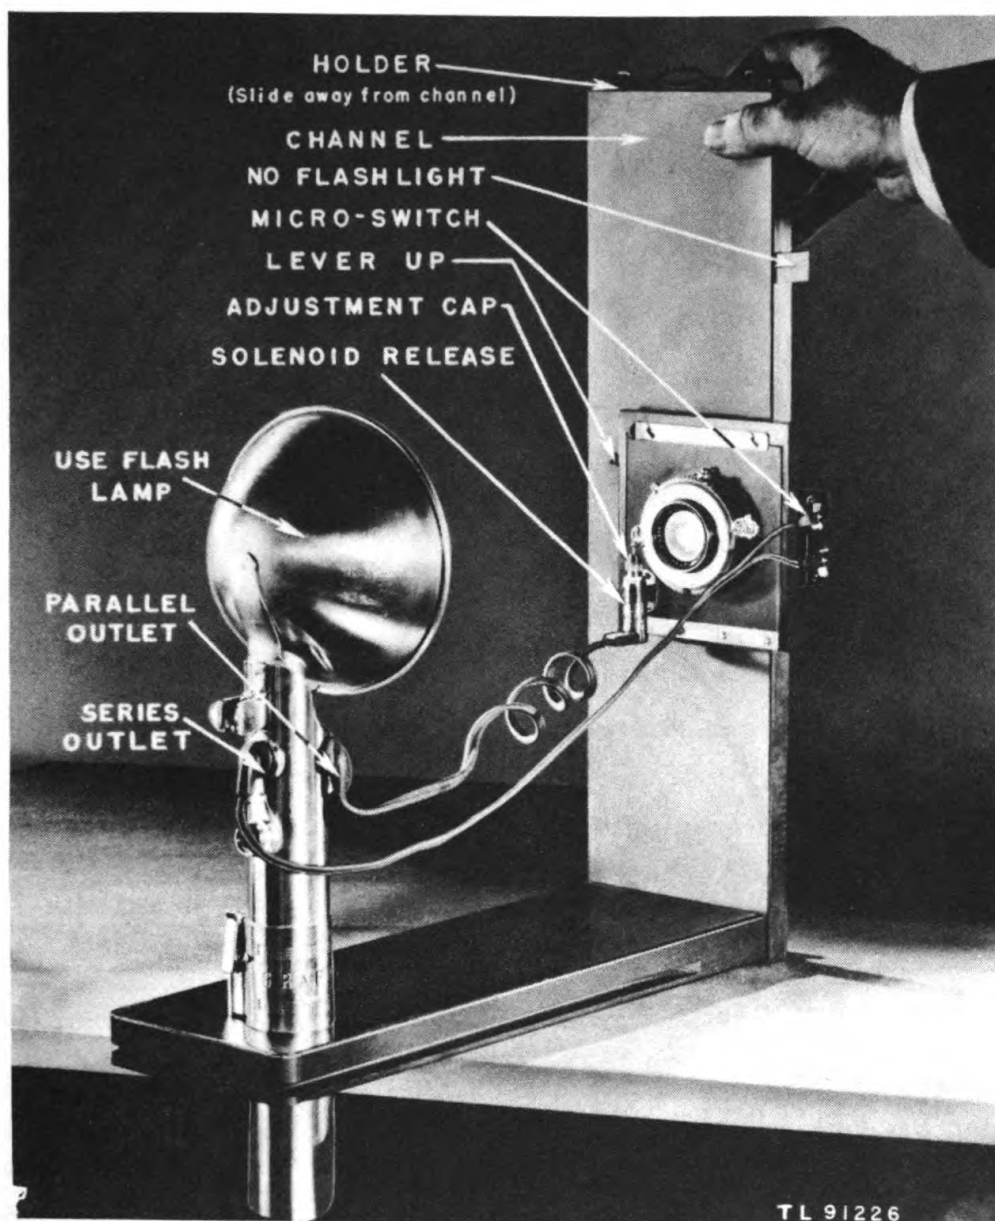

Figure 4. Timer PH-191-A, set up for photographic test.
b. Photographic Test (fig. 4). The photographic test, employing a flash lamp and photographic paper, assures an accurate recording of tripper performance, thereby permitting a more precise adjustment.
(1) Raise the lever as far as it will go so that the top and the bottom holes at the right side of the channel are completely covered and the small single hole at the left side of the channel is open as is the center one of the three holes.
(2) Locate the timer so that the end of the base which has the hole overhangs the edge of the table, and place the battery case in position as indicated in figure 4.
(3) Insert the flash lamp in the socket of the battery case. Use a lamp designed for a between-the-lens shutter, not one designed for a focal-plane shutter.
(5) Insert a piece of 4- by 5-inch contact printing paper, of high contrast grade, in the septum of the holder (at the open side of the holder, opposite the slide with the colored windows). Place the holder at the top of the channel with the sensitized paper facing toward the channel and hold as shown in figure 4.
(6) Permit the holder to fall by relaxing the forefinger. As the holder falls in the channel it closes the microswitch, causing the lamp to flash and the solenoid release to trip the shutter. This causes two traces to be exposed on the paper in the holder, the single hole at the left being open during the whole time the lamp is lit, and the single hole at the right being open only during the time the shutter is open.
(7) Process the paper, arresting development as soon as possible after appearance of the images. This will prevent overdevelopment of the images, which would result in loss of differentiation between the darkest area, representing the peak of the lamp trace, and the lighter areas, exposed during the increasing and decreasing illumination at the beginning and end of the flash.
b. Replacement. (1) Place the clips in position on the side of the new switch, securing with two screws removed in (subpar. **a** (2)).
(2) Place the switch in position on the channel plate.
(3) Place the lockwashers on the two screws, extending the screws through the switch and the channel plate.
- (4) Secure the screws with hexagonal nuts.
- (5) Check the position of the switch as follows:
- (b) Connect the microswitch to the series outlet on the battery case (fig. 4).
b. Replacement. (1) Place the new spring over the prongs on the side of the channel.